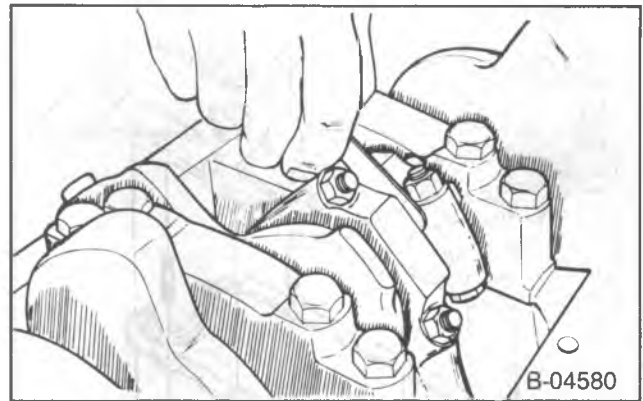

Figure 36—Measuring Connecting Rod Side Clearance
- Connecting rod side clearance (figure 36). The proper clearance is 0.16 to 0.64 mm.